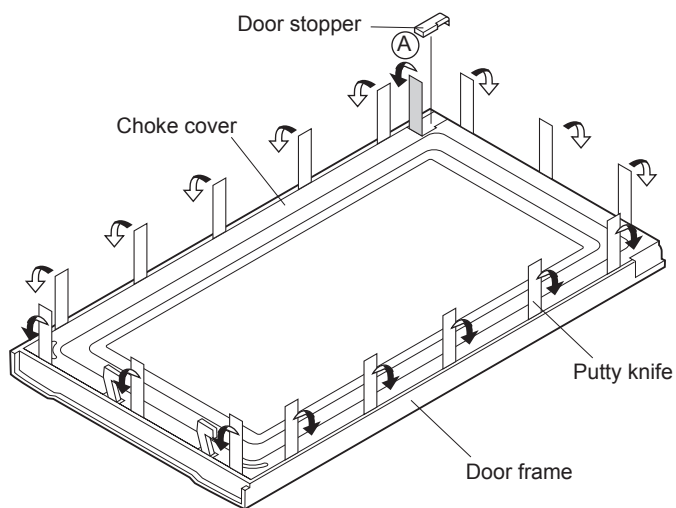

Figure C-3. Door Disassembly
4. Remove the three (3) screws holding the hood louver to the oven cavity front face plate.
6. Insert a putty knife (thickness of about 0.5mm) into the gap A between the door stopper and the choke cover as shown in Figure C-3 to free engaging parts.
8. Insert a putty knife (thickness of about 0.5mm) into the gap between the choke cover and door stopper and between the choke cover and the door frame as shown in Figure C-3 to free engaging parts.
9. Pry the choke cover by inserting a putty knife in order shown in Figure C-3.